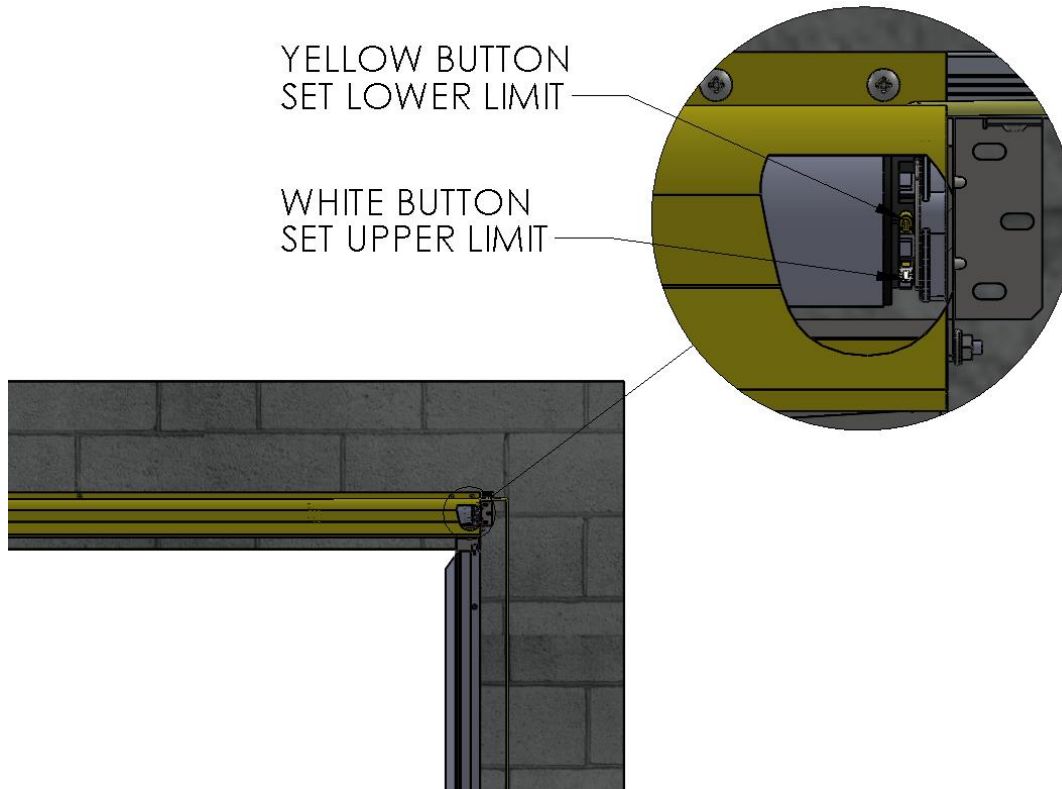

Figure 4: 600 SERIES DOOR RAISE/LOWER DOOR ADJUSTMENT
- Always, FIRST JOG THE DOOR DOWN toward the closed position. Observe where the lower limit stops the door and adjust accordingly by depressing the upper button at the end of the motor. (See Figure 4 on page 5) Run the door partially upward, stop, and then close again a few times up and down to make finer adjustments for the closed position as desired.
- Now open the door and note the upper stop point. Adjust in the same way using the lower button at the end of the motor. (See Figure 4 on page 5) Repeat a few times until the desired upper stop position is finally achieved.